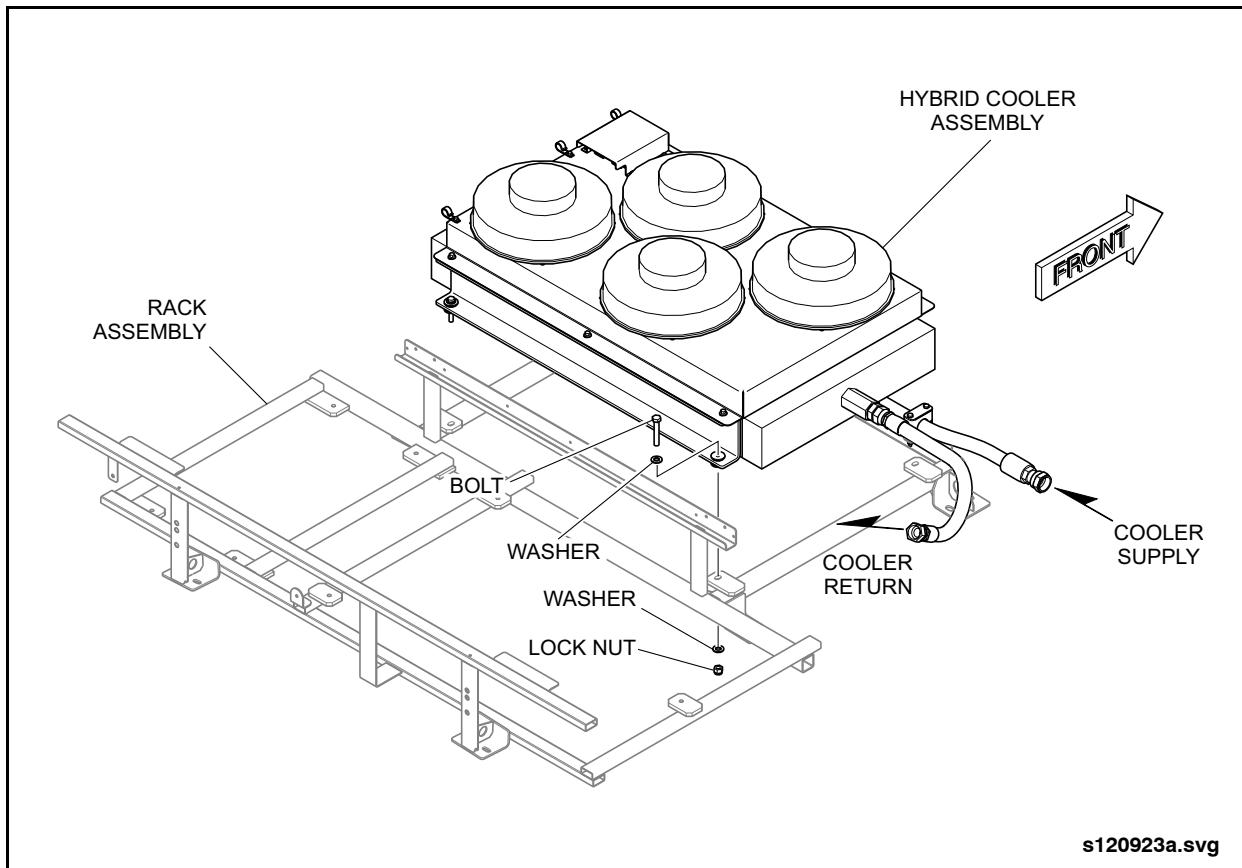

Fig. 6-3: Hybrid Oil Cooler Installation
2. Disconnect the main 16-pin connector from the cooling fan harness. See "Fig. 6-3: Hybrid Oil Cooler Installation" on page 15.